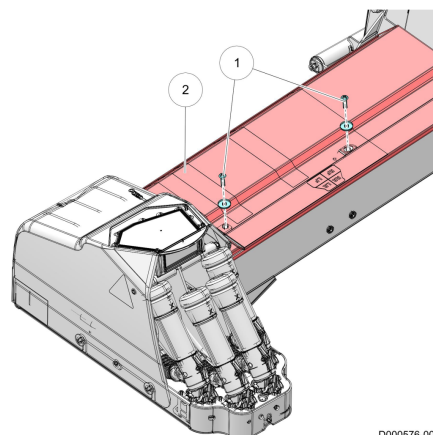

Figure 20. Lower arm cover
1. Install the cover (2) (see figure 20 on page 5-4).
2. Install the watertight washers and screws (1).